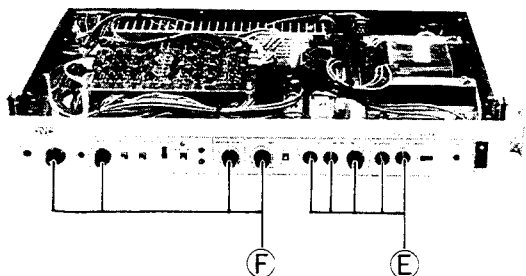

Fig. 1-8
2. Remove the four knobs ⑥ (refer to Fig. 1-8).
3. Remove three screws ⑧ on the FR-2 board.